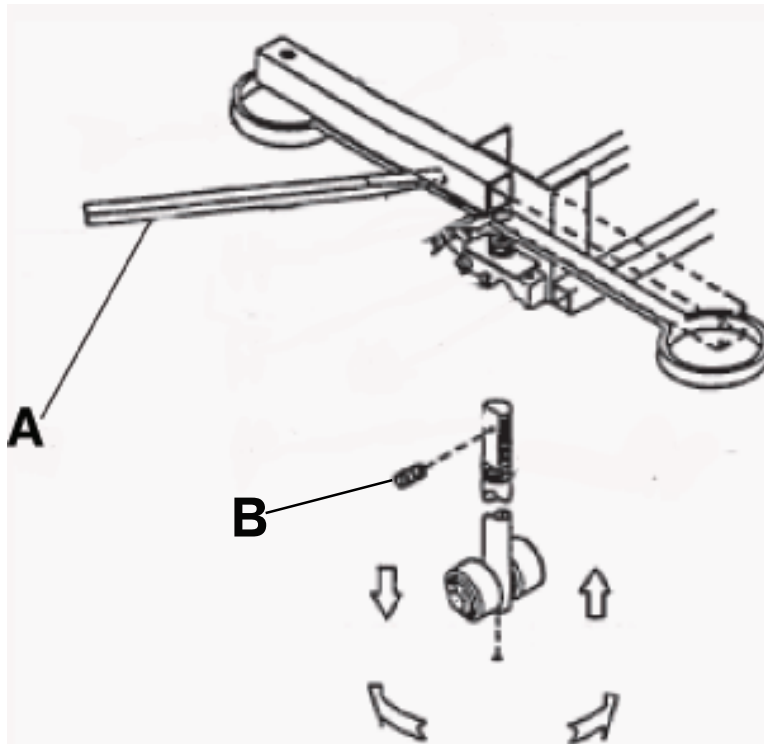

Figure 4 – Brake adjustment
1. Using a pry bar (A), compress the spring to relieve tension on the stud (Figure 4).
2. Using a 3/32" hex wrench, turn the set screw (B) one full turn counterclockwise to tighten the brake.
3. Using a 3/32" hex wrench, turn the set screw (B) one full turn clockwise to loosen the brake.